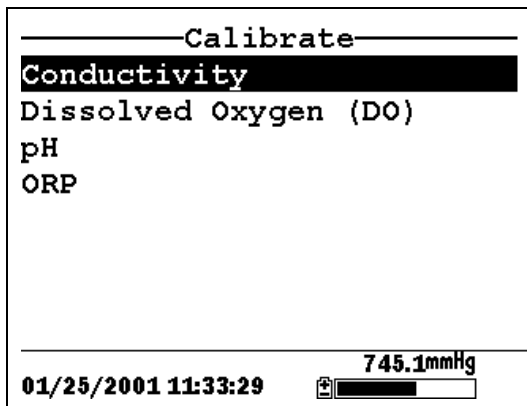

Figure 6.2 Calibrate Screen
2. Use the arrow keys to highlight the **Conductivity** selection. See Figure 6.2 Calibrate Screen.
15. Press **Escape** to return to the calibrate menu. See Figure 6.2 Calibrate Screen.
2. Use the arrow keys to highlight the **Dissolved Oxygen** selection. See Figure 6.2 Calibrate Screen.
- 11.** Press **Escape** to return to the calibrate menu. See Figure 6.2 Calibrate Screen.
11. Press **Escape** to return to the calibrate menu. See Figure 6.2 Calibrate Screen.
2. Use the arrow keys to highlight the **pH** selection. See Figure 6.2 Calibrate Screen.